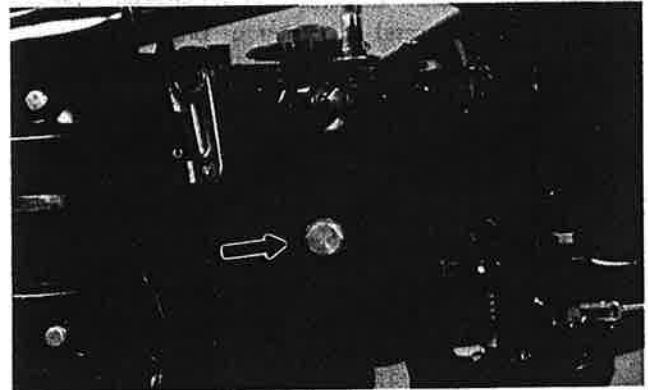

Fig. 2-3-14
- c. A drain bolt is located on the bottom of the crankcase. (Fig. 2-3-14)